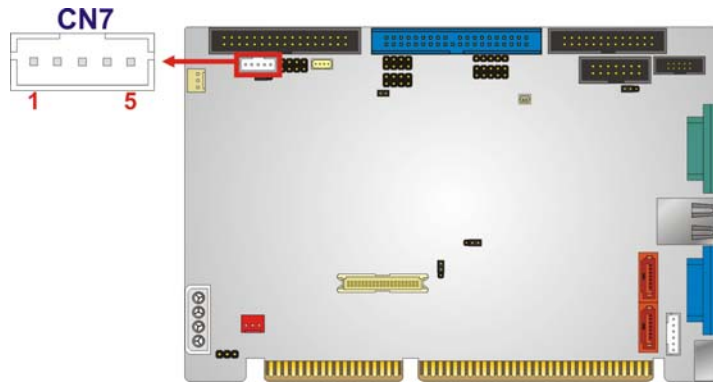

Figure 3-4: Backlight Inverter Connector Pinout Locations
- CN Location:** See Figure 3-4